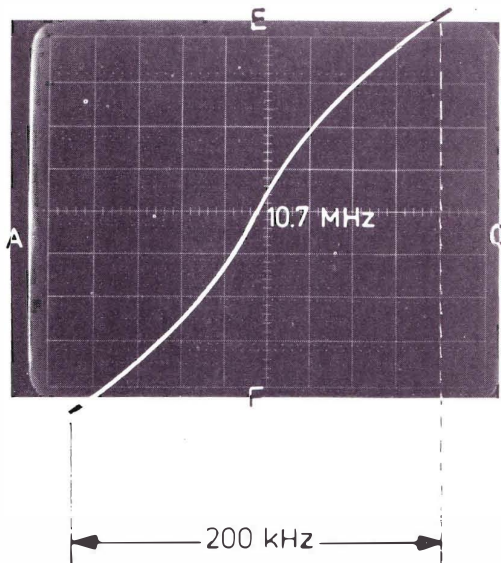

Fig. 19. Discriminator curve
- The zero passage of the band-pass curve should be in the centre of the picture (Fig. 19)
- The centre of the straight part of the curve should be on line EF (Fig. 19)